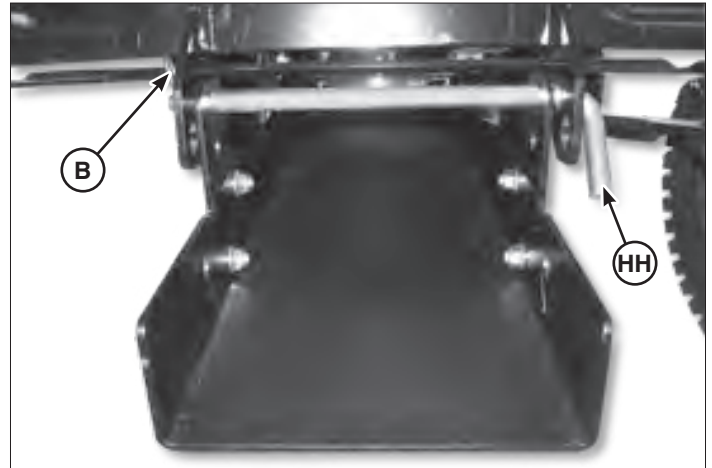

Figure 7
1. At the front of the tractor, align the top slot of the sub-frame assembly to the tractor frame. Slide the latch rod (**HH**, Figure 7) through the slotted holes of the sub-frame assembly and the holes of the tractor frame.
2. Secure latch rod with hair pin (**B**, Figure 7).